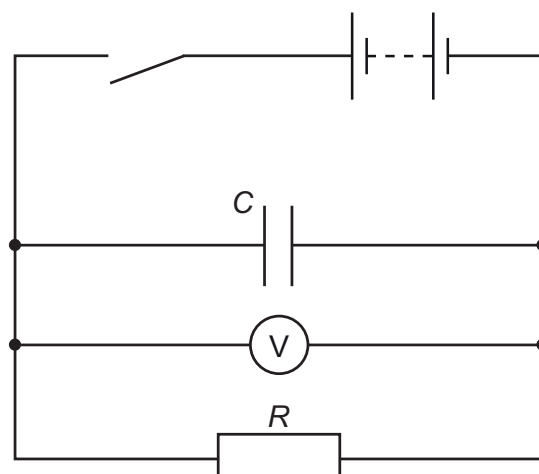

Fig. 2.1
- 2 A student investigates the discharge of a capacitor through a resistor using the circuit shown in Fig. 2.1.